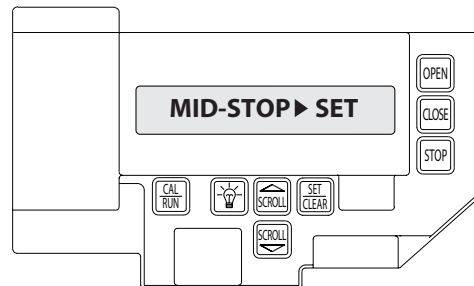

Figure 14
- 3) Press SCROLL  until display reads "MID-STOP > CLR" **Figure 14.**